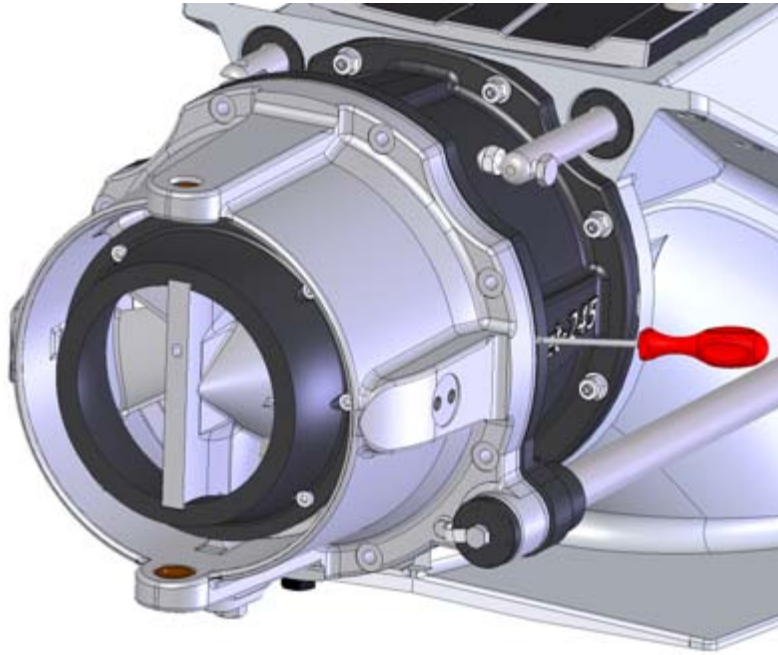

Figure 82. Removing the stator
If the stator cannot be detached easily, you can use a screwdriver by inserting it between the stator and impeller duct (figure 82). Please note that this will damage the seal between the parts, which means that it must be replaced.
3. Remove the stator carefully using a screwdriver (figure 82).